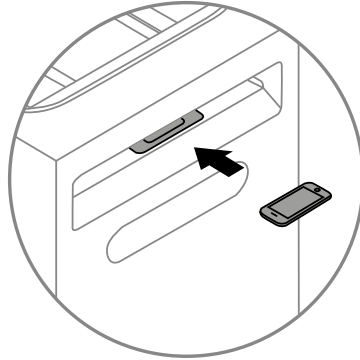

Fig. 13.78 Placing the phone under the drive belt.
10. Place your smart device (with the app running) under the belt (fig. 13.78).